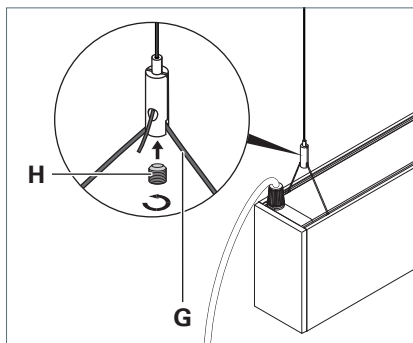

Fig. 22: Fastening the luminaire to the wire rope holder.
- Insert the wire rope **G** of the luminaire into the wire rope holder, see Fig. 22.